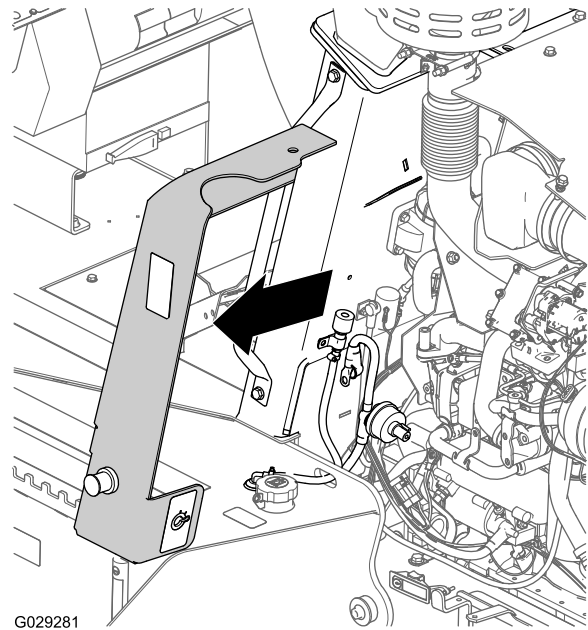

Figure 6
3. Remove the right-cowl panel from the machine (Figure 6).